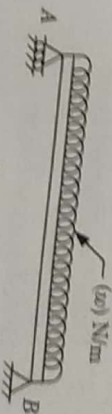

Fig. 25.7
**Uniformly Distributed Load.** A uniformly distributed load is uniformly or evenly distributed over a part or over the entire length of the beam. The rate of loading is expressed in  $N/m$  (Fig. 25.7). For solving numerical problems the total uniformly distributed load is converted into equivalent point load acting at the C.G. of uniformly distributed load.